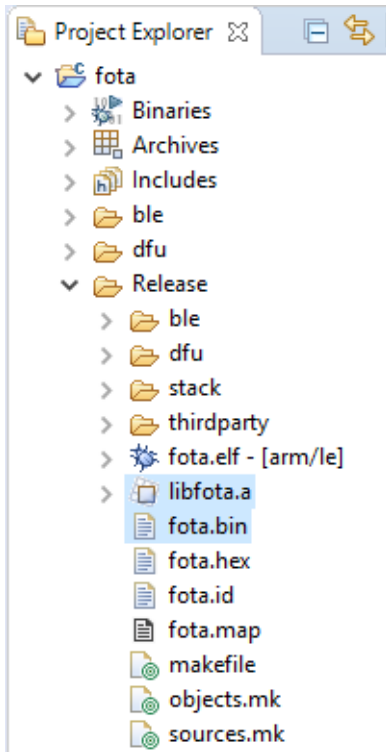

Figure 12. Building the Project
3. Build the project. After building successfully, *libfota.a* and *fota.bin* are generated under the *Debug* or *Release* folder, as shown in Figure 12.